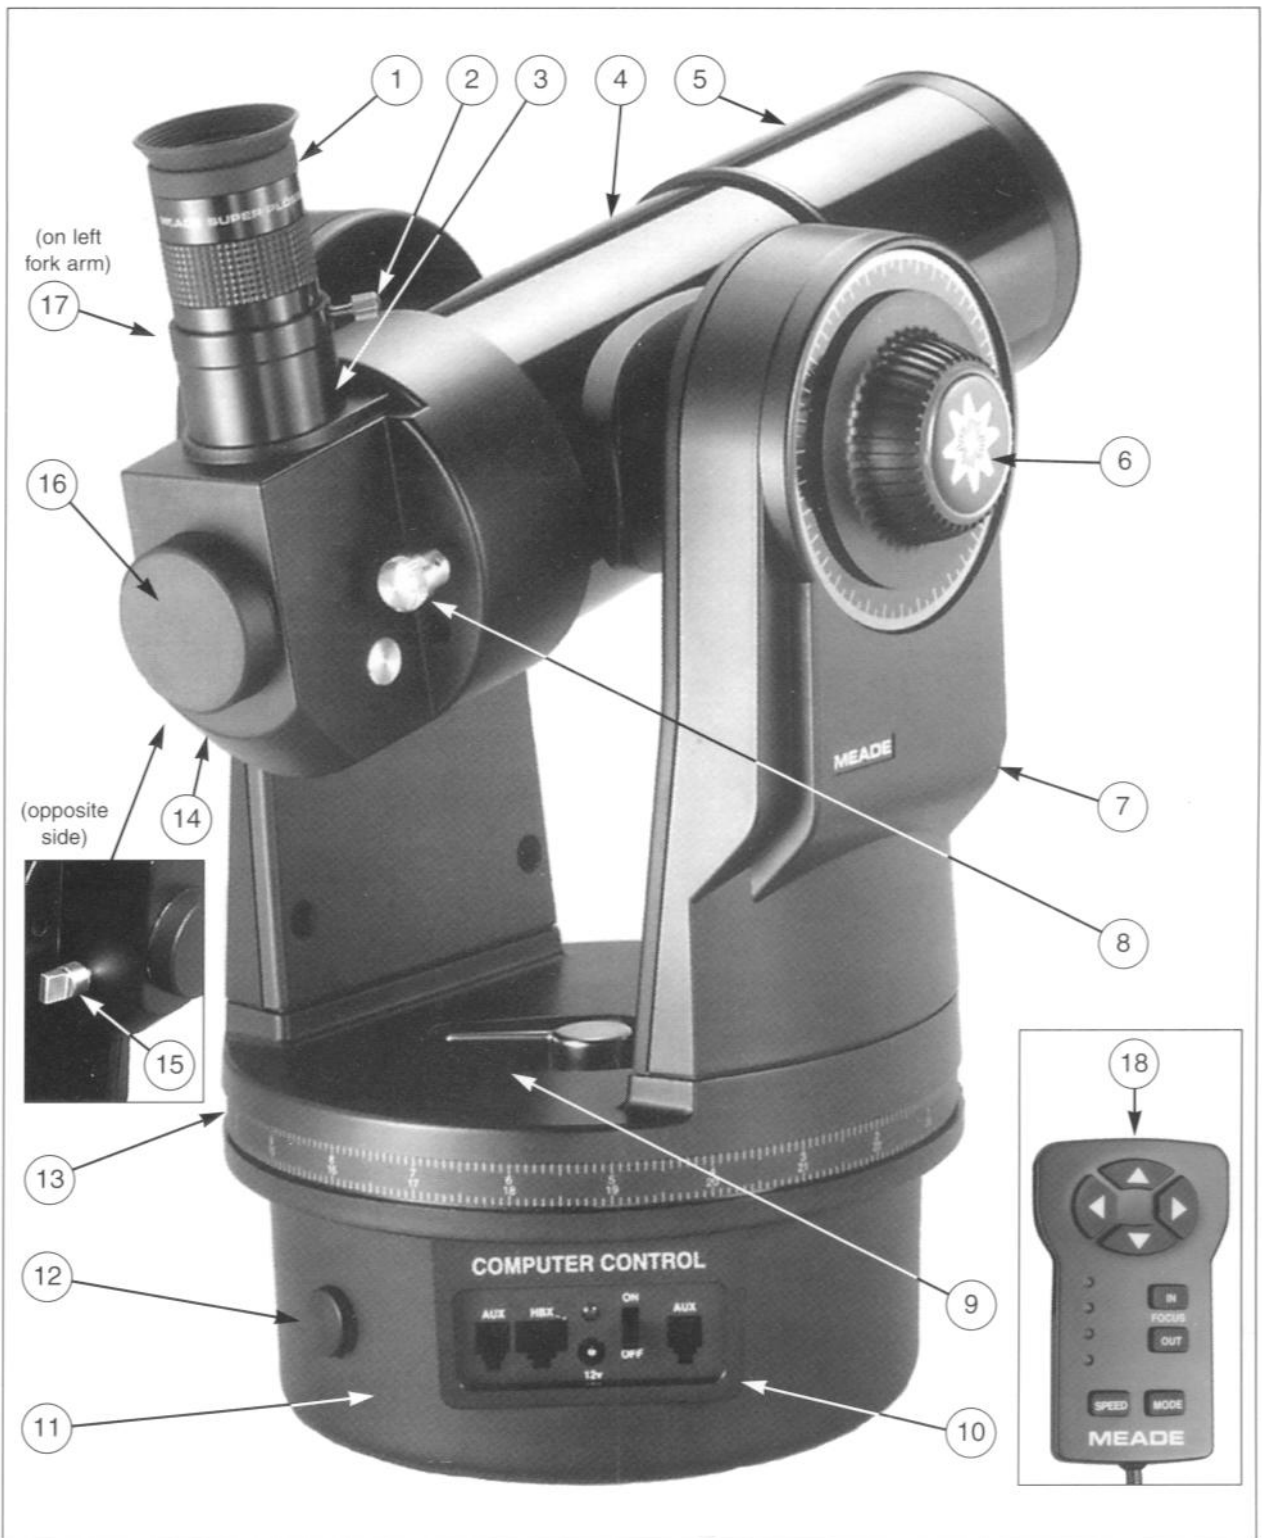

Fig. 1: The ETX-70EC Astro Telescope.
Captions for Figure 1
Verify that the computer control panel power switch is in the OFF position. Remove the Electronic Controller (18, Fig. 1) from the packing materials and plug it into the HBX port (A). Tighten the vertical and horizontal locks (6 and 9, Fig. 1), then remove the dust cover from the end of the telescope tube.
Sight along the side of the telescope's main tube to locate an object. Practice using the arrow keys on the Electronic Controller to center an object in the telescope's field of view. Use the telescope's focus knob (8, Fig. 1) to bring the object into focus.
1. Remove the SP 20mm eyepiece (1, Fig. 1) from its container and place it in the eyepiece holder (3, Fig. 1). Tighten the thumbscrew (2, Fig. 1) to a *firm feel* only.